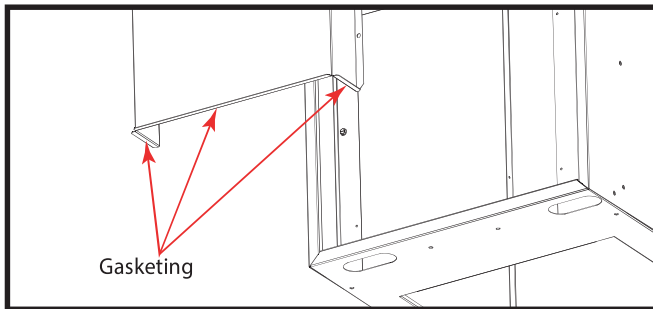

Figure 4. Pressure Box Gasketing
1. Add gasketing to the bottom side flange of the pressure box to insure a proper seal. (see Figure 4)